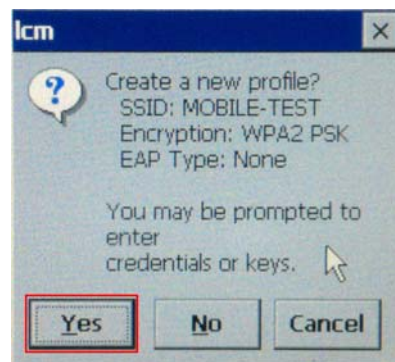

Figure 4-23: Laird Connection Manager – lcm
- Step 5:** Click **Yes** in Figure 4-23 to create a new network profile.